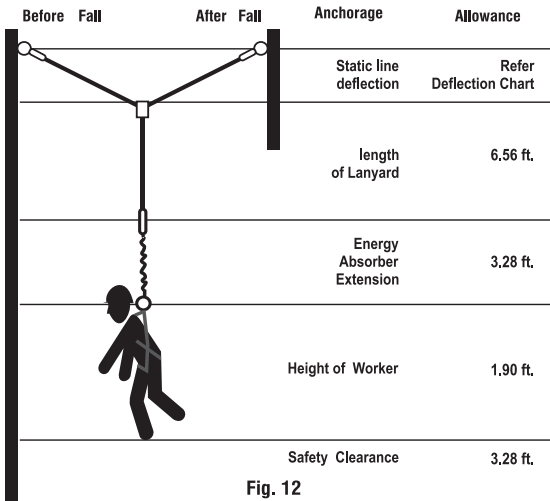

Fig. 12
- **Fall Clearance:** There must be sufficient clearance below the anchorage connector to arrest a fall before the user strikes the ground or an obstruction. When calculating fall clearance, account for a MINIMUM 1mtr. safety factor deceleration distance, user height, length of Lanyard/SRL, and all other applicable factors as shown in Fig.12 above.